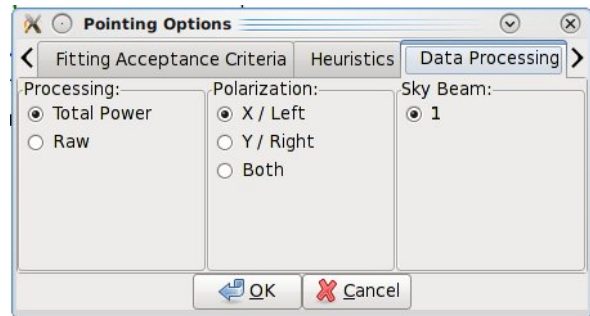

Figure 5.4: The pop-up menu to change the polarization and calibration used in pointing and focus fitting.
**Step 3.** Make new data processing selections in the Data Processing Tab of the pop-up window (see Figure 5.4).